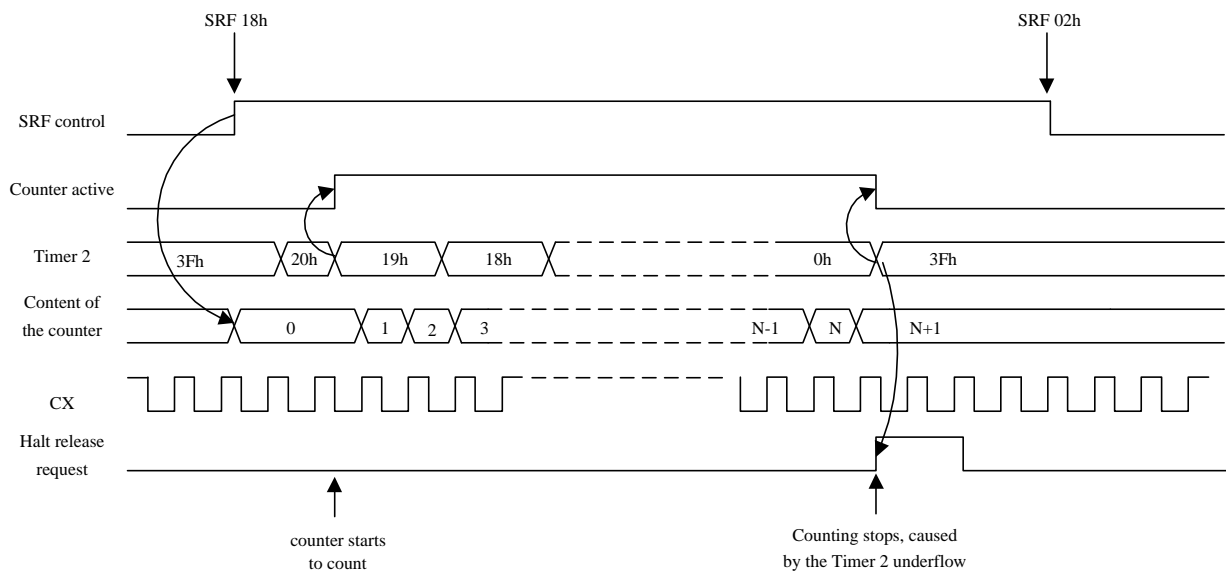

Figure 2-24 The timing of the RFC counter controlled by timer 2
Figure 2-24 shows the block diagram of RFC.
1. Connect the resistor and capacitor on the RR, RT, RH and CX pins. Fig. 2-24 illustrates the connection of these networks.